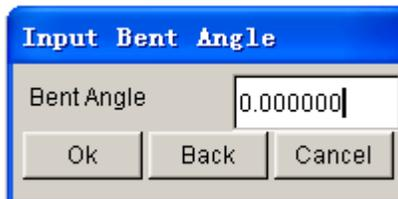

Figure 6.1.9 Input Bent Angle dialog box
- The **INPUT BENT ANGLE** dialog box as illustrated in Figure 6.1.9 is displayed. The bent angle is the angle between the unfolded surface and the base surface. The default angle ( $0^\circ$ ) indicates that unfolded surfaces are tangent to the base surfaces at the unfold line.